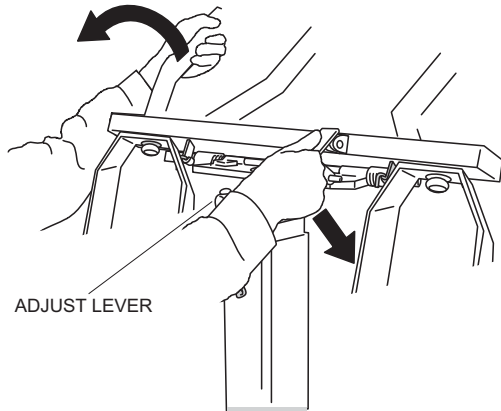

Figure 15. Adjusting Direction of Lighting Units
1. Loosen the adjust lever. Turn the lighting units in the desired direction (Figure 15).